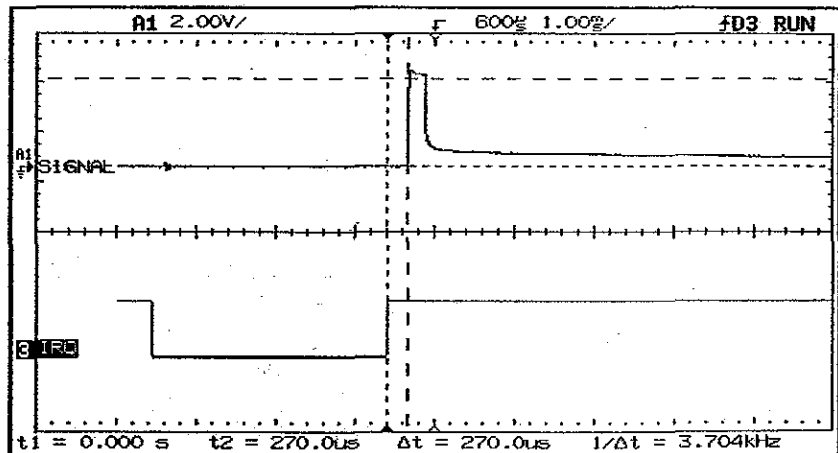

Figure 77
7. Verify that after $\approx 270\mu\text{s}$ from the rising edge of TP4, there is a pulse $>3.5\text{V}$ (see Figure 77).